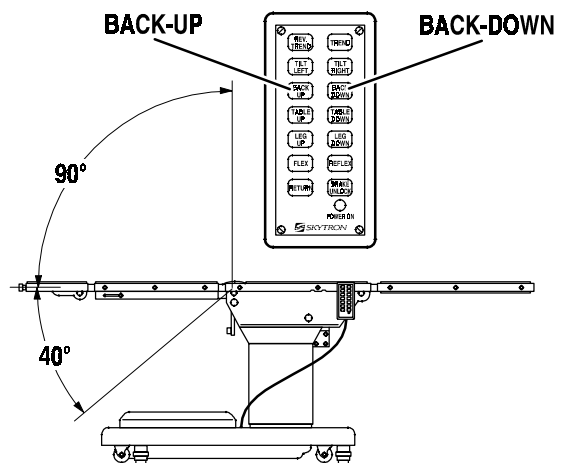

Figure 3-7. Back Section Positioning
e. Back Section. To raise the back section, press the BACK UP button (figure 3-7). The back section will raise up to 90° above horizontal. To lower the back section, press the BACK DOWN button. The back section will go down to 40° below horizontal.